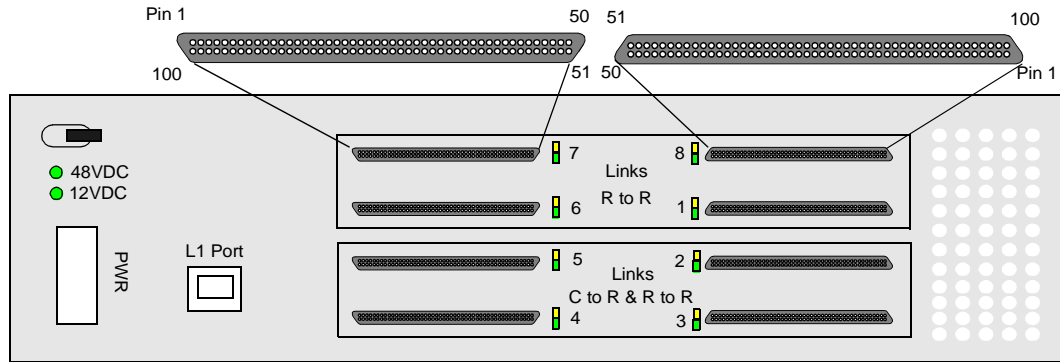

Figure 2-2 R Brick DNET Connector Receptacle Pinouts
Figure 2-2 shows the DNET connector pinouts for an R bricks connector receptacles. One group of receptacles on the R brick is inverted. The DNET connector receptacle pinouts are the same for the network interface (NI) or Link port, the IO interface (II) port, and the XIO ports of each brick type. Table 2-3 lists the pin number and signal associated with each pin.